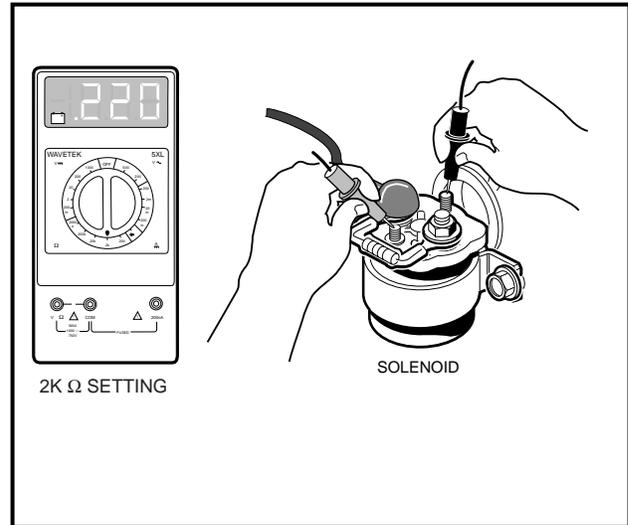

Figure 11-16 Test Activating Coil
4. With diode assembly and yellow wire removed from the small activating coil post of the solenoid, place red (+) probe of the multimeter on the post. Place the black (-) probe on the other small activating coil post on the solenoid. A reading of 190 to 250 ohms should be obtained. If not, replace the solenoid. If the ohm reading is correct, reconnect the diode assembly and yellow wire (**Figure 11-16, Page 11-15**).